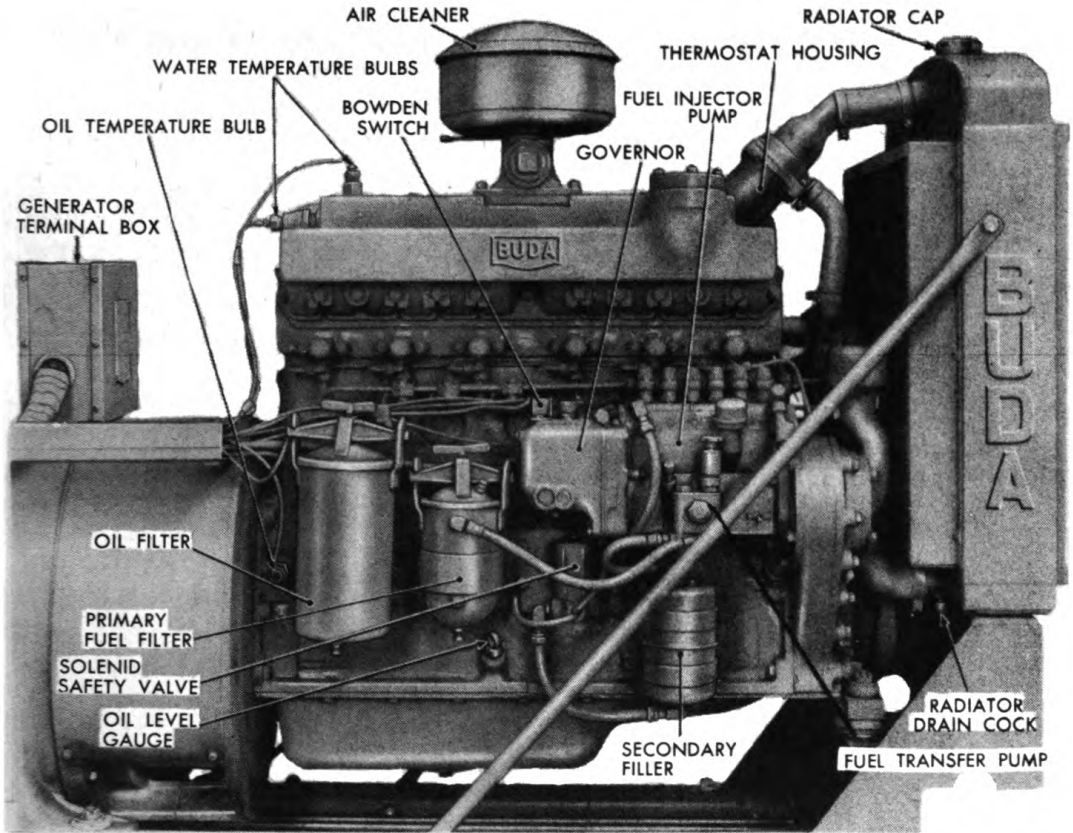

Figure 102. Right Side of Engine on Generator Set.
1. Drain the water and the oil. See Figure 102.
2. Remove the radiator, See Figure 102.
3. Disconnect the fuel line at the primary fuel filter, remove muffler, and disconnect all leads and connections from the engine to the control unit, disconnecting them at the engine, and from the control unit to the alternator and exciter, disconnecting them at the alternator and exciter. See Figure 102.
After the starting motor, and the battery charging generator, and the air cleaner have been removed, the following steps of disassembly should be followed: See Figure 102.